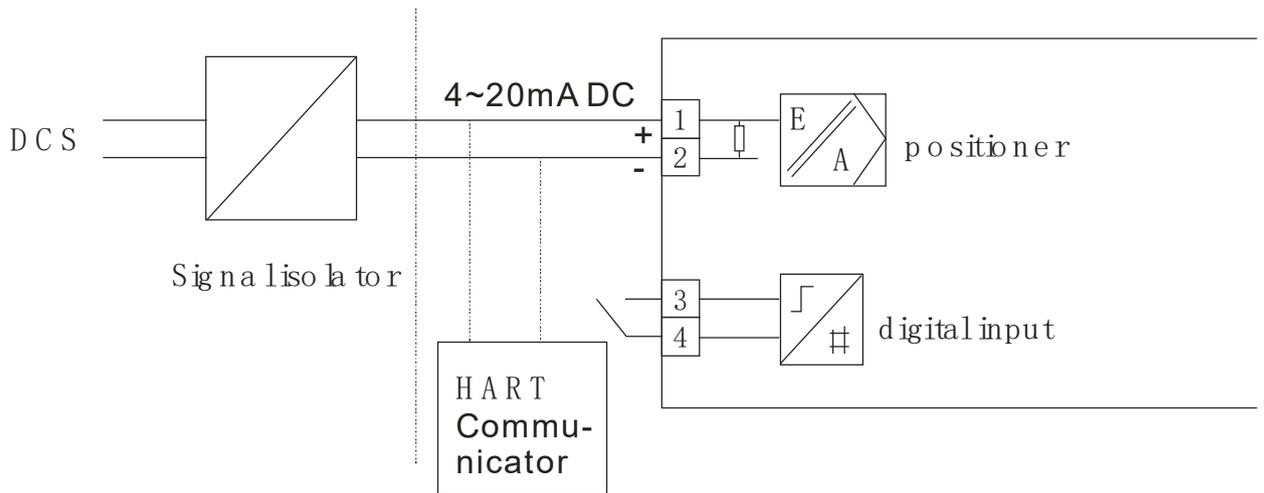

Fig 4-11 Input electrical connection..
4.4.3.1 Input electrical connection (Fig. 4-11)